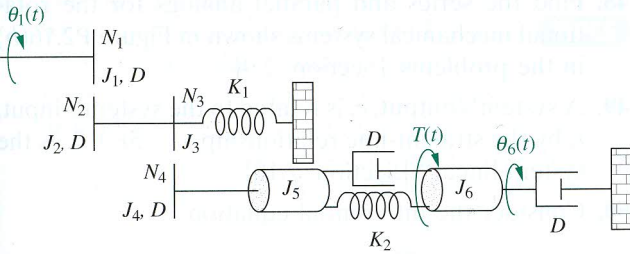

FIGURE P2.24
38. Given the rotational system shown in Figure P2.24, find the transfer function,  $G(s) = \theta_6(s)/\theta_1(s)$ . [Section: 2.7]